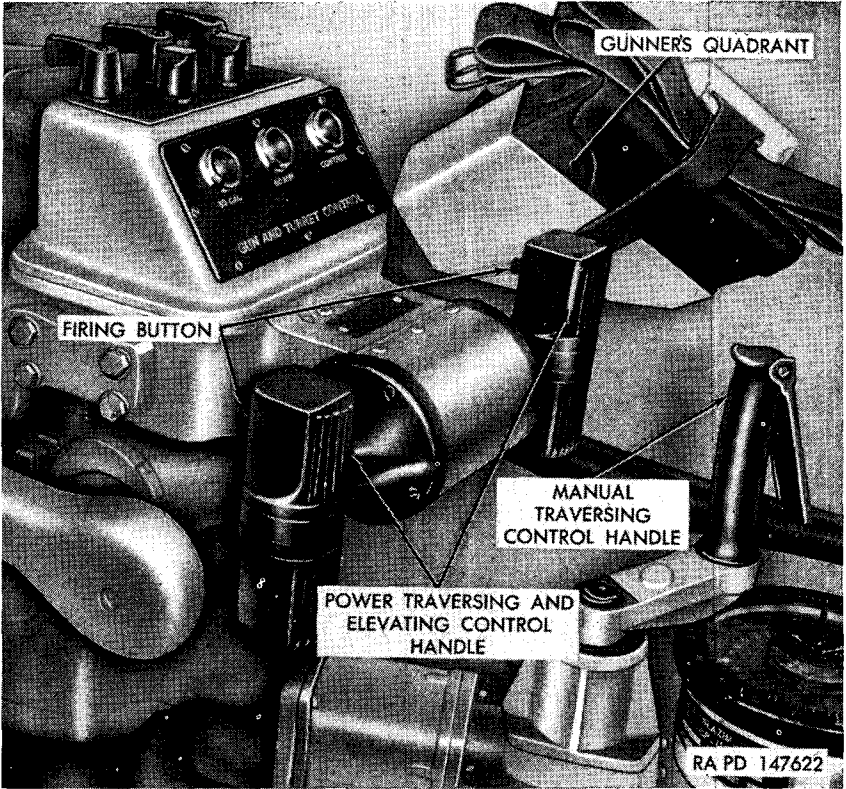
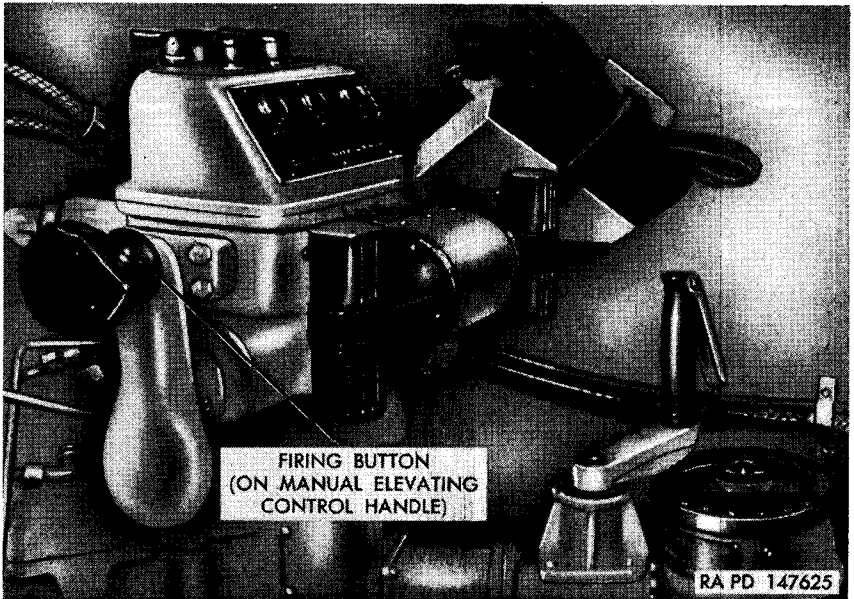

Figure 22. Gunner's traversing and elevating controls.
Figure 25. Gunner's controls and firing buttons.
a. **GENERAL.** The gunner's power traversing and elevating control handles (fig. 22) are located directly in front of the gunner's seat. A firing button is located on each handle.
The gunner's manual elevating control handle is located to the left of the gunner's-power traversing and elevating control handle (figs. 22 and 24). A gunner's firing button is located on the handle (fig. 25). To elevate the gun, rotate the handle clockwise; to depress the gun, rotate the handle counterclockwise. The rate at which the handle is rotated regulates the rate at which the gun is elevated or depressed.